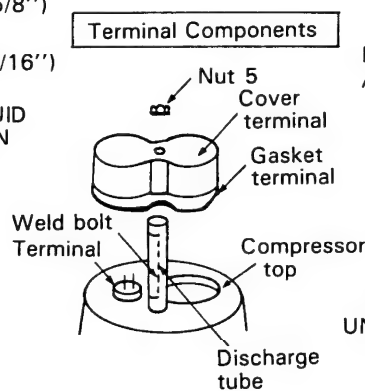

Fig. 20
- 2) Remove the cabinet according to the disassembly procedure of the outdoor unit. Refer to Page 52. Furthermore remove the terminal cover at the top of the compressor and remove the wiring of the overload relay and the compressor terminal. Fig. 20.